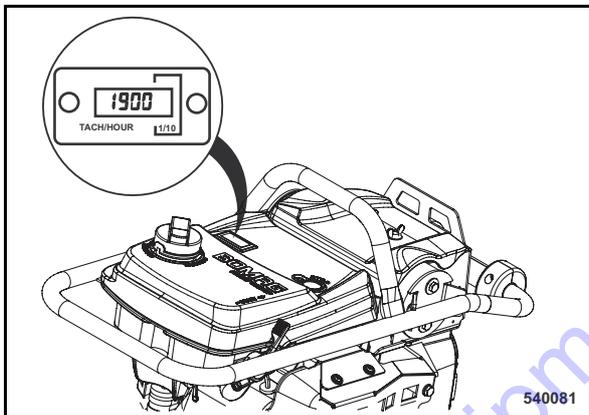

Fig. 57
- After approx. 30 to 40 seconds read the idle speed from the existing engine rpm-meter 1 (Fig. 57) or by using a conventional rpm-meter.
- After approx. 30 to 40 seconds read the high speed from the existing engine rpm-meter (Fig. 57) or by using a conventional rpm-meter.